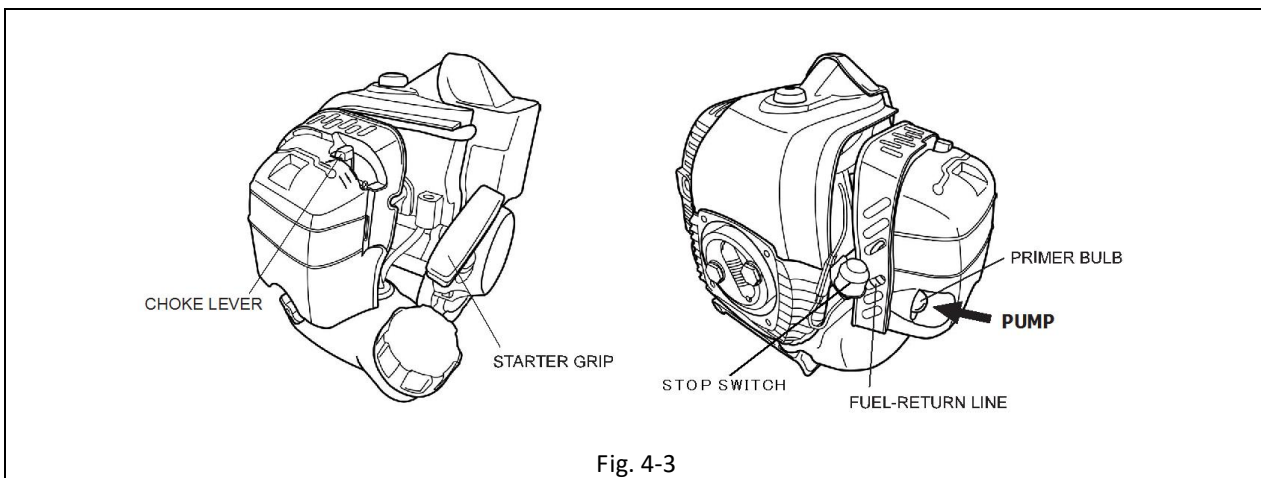

Fig. 4-3
4. Set Choke lever (Figure 4-3) position to "I/I".
- 2 Press the stop switch until the engine stops completely. (Fig. 4-3)